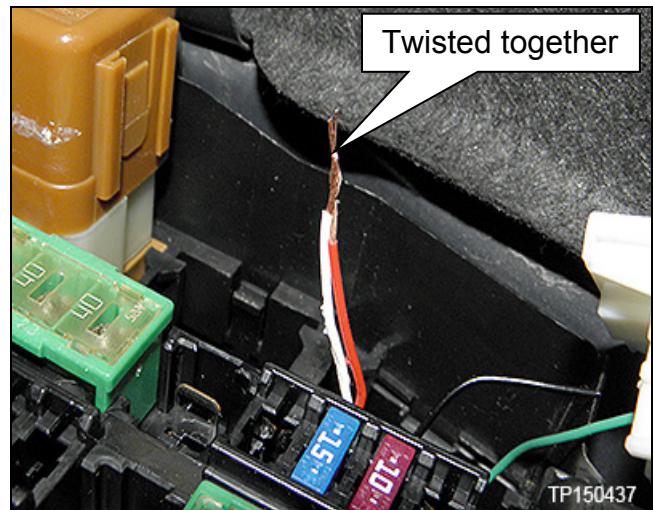

Figure 7
- Twist the red and white wires together (Figure 7).